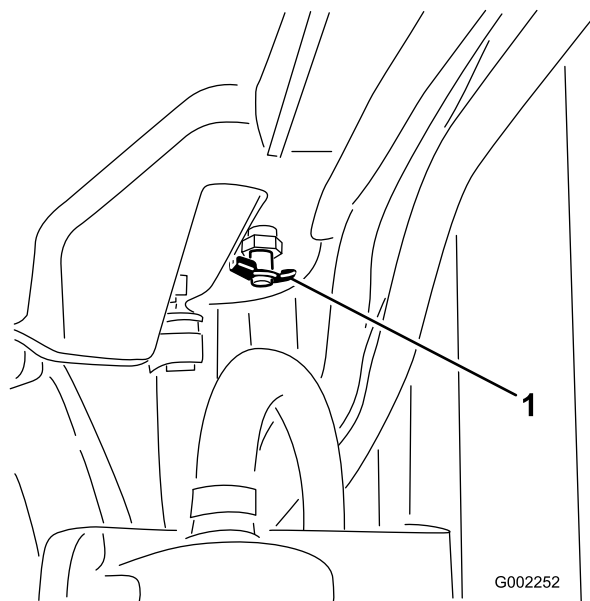

Figure 94
4. Open the drain valve and drain the coolant into the pan (Figure 94).
5. Close the drain valve (Figure 94).